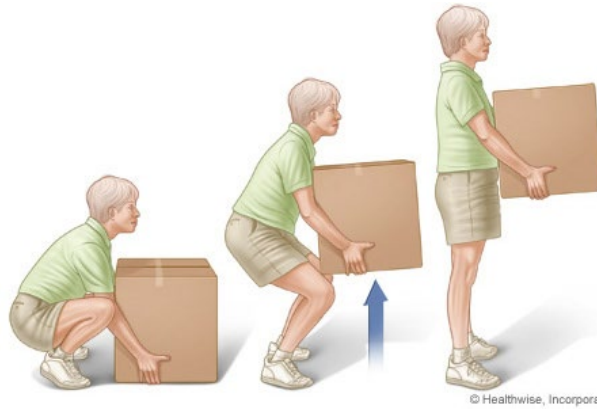

Figure 3 The work required to lift a box is expressed as energy E and is measured in Joules [J] – [UC-Energy Education, 2017]
1.2 WORK AND ENERGY: **Lifting a box** requires a specific amount of **energy E**, which is comparable to the work required. **This energy is measured in Joules [J], a unit derived from the International System of Units or SI [SI-Wiki, 2024] [SI-Wiki-d, 2024].** To perform the task (Figure 3), the same amount of energy will be required whether the box is lifted quickly or slowly.